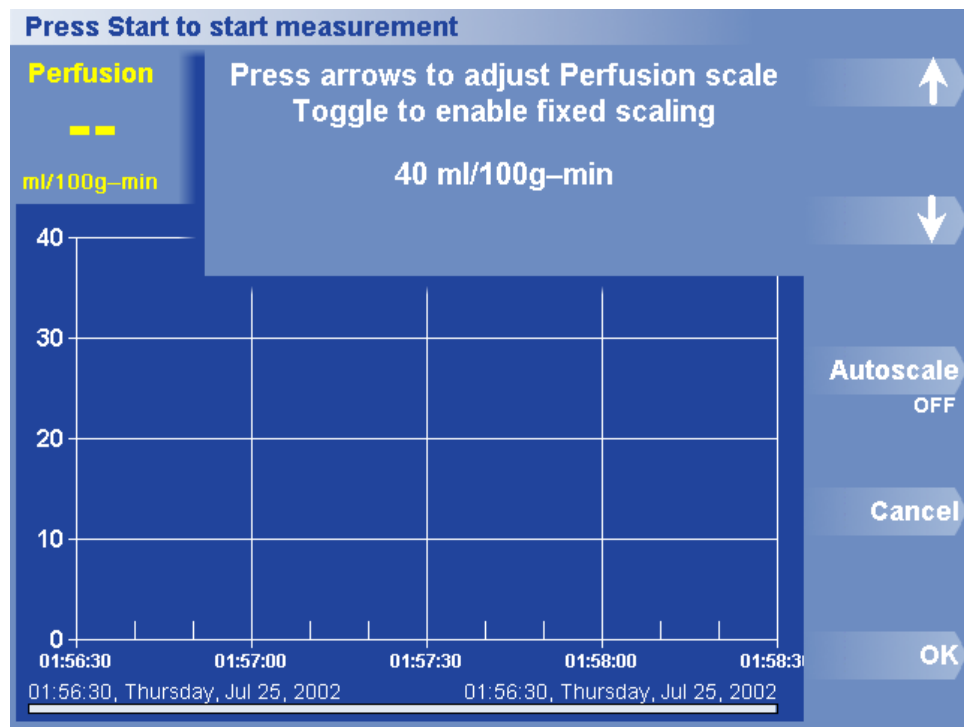

Figure 35. Set Perfusion Range Dialog Box and Menu
1. Press Options > View Data > Set Perfusion Range. The Set Perfusion Range dialog box appears (Figure 35).